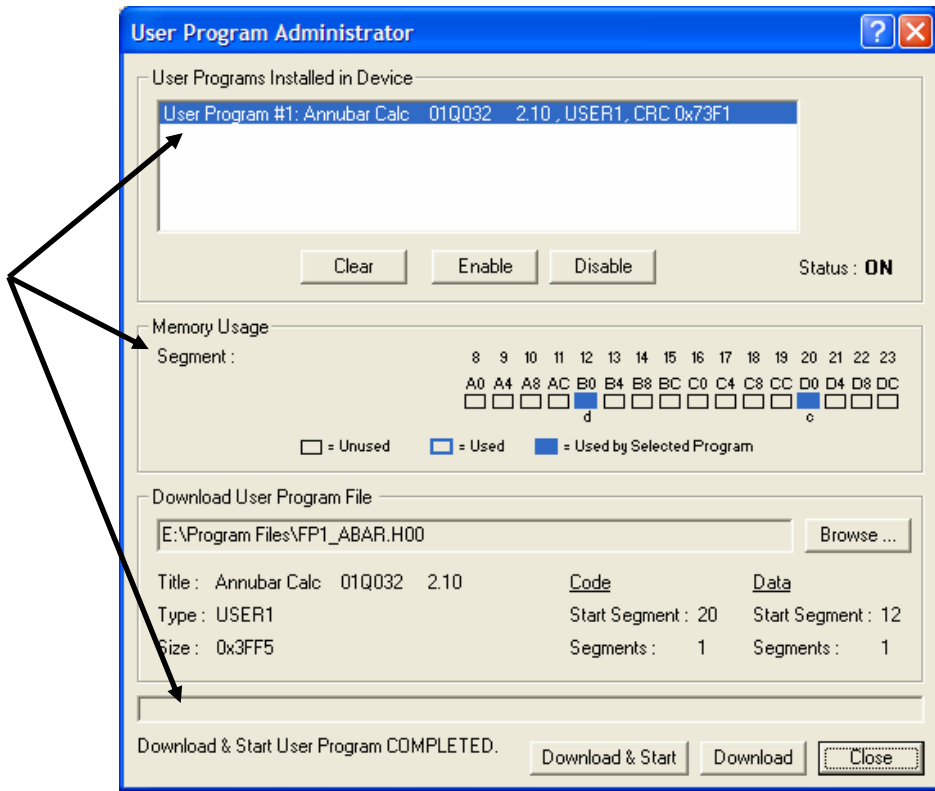

Figure 7. User Program Administrator Screen
11. Click **OK**. The User Program Administrator screen displays (see Figure 7). Note that: